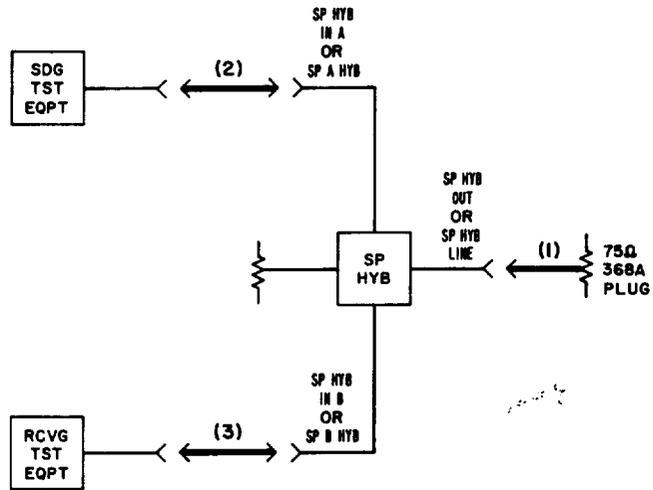

Fig. 2—Spare Hybrid Balance Test
14	Terminate the SP HYB LINE jack with the 368A termination plug designated (1) in Fig. 2.
15	Make patches designated (2) and (3) in Fig. 2.